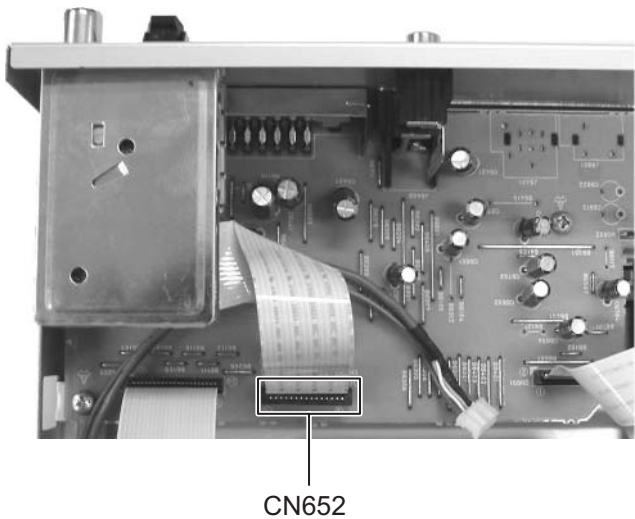

Fig.10
3.1.6 Removing the tuner pack (See Fig.10 and 11)
- (1) Disconnect the card wire from connector CN652 of video board. (See Fig.10)